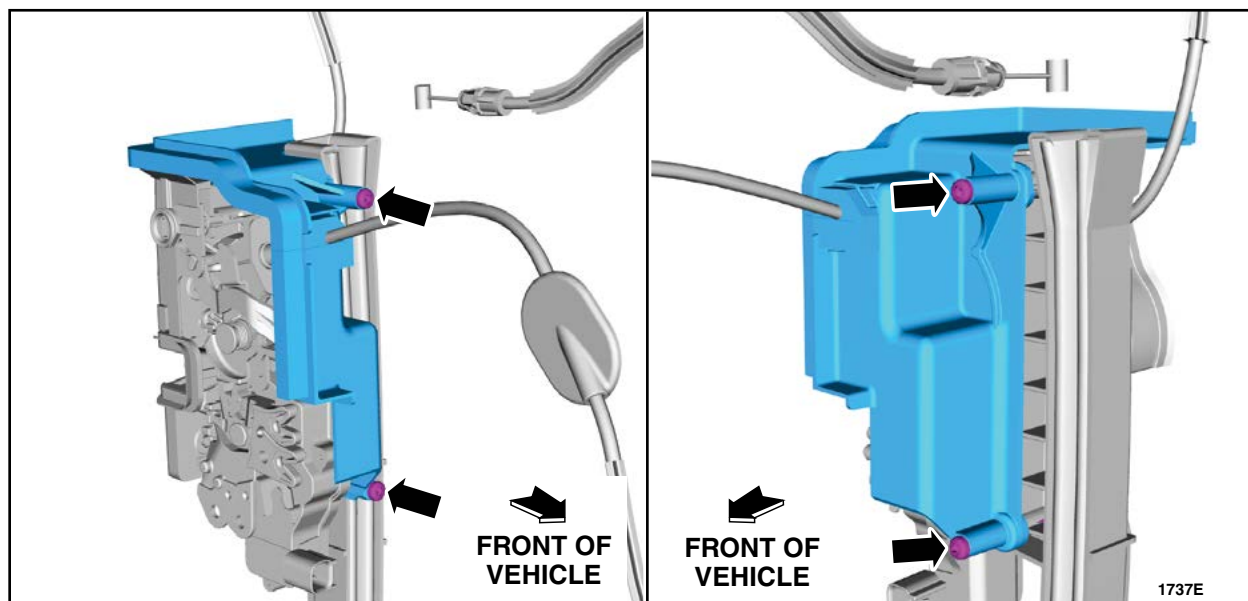

FIGURE 11
7. Install the door latch water shield into position. See Figure 11.
8. Install the *new* screws into the top and bottom holes of the shield. See Figure 11.